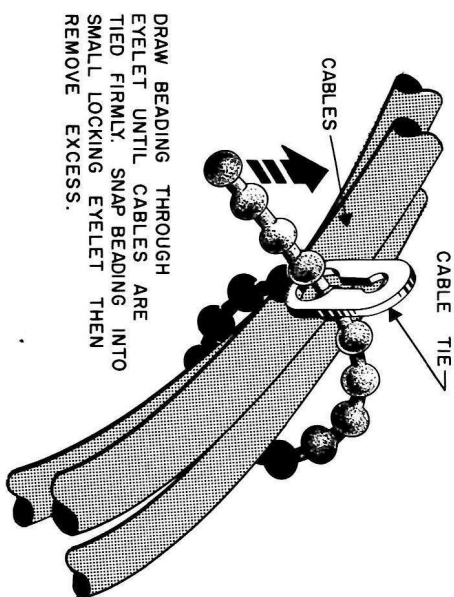

Figure 20
- Tie the bundle of wires under the pilot lamp socket with a cable tie as shown in Figure 20.